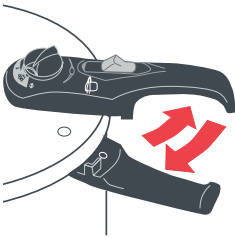

Fig.5
Lid (1). Made from top quality thick calibre stainless steel. The lid must be correctly fastening and the chosen pressure operating correctly for the cooker to reach sufficient pressure. To place the lid easily, align the ● mark on the left hand side of the handle at the top of the lid with the ● on the top of the stove handle. (Fig. 5)